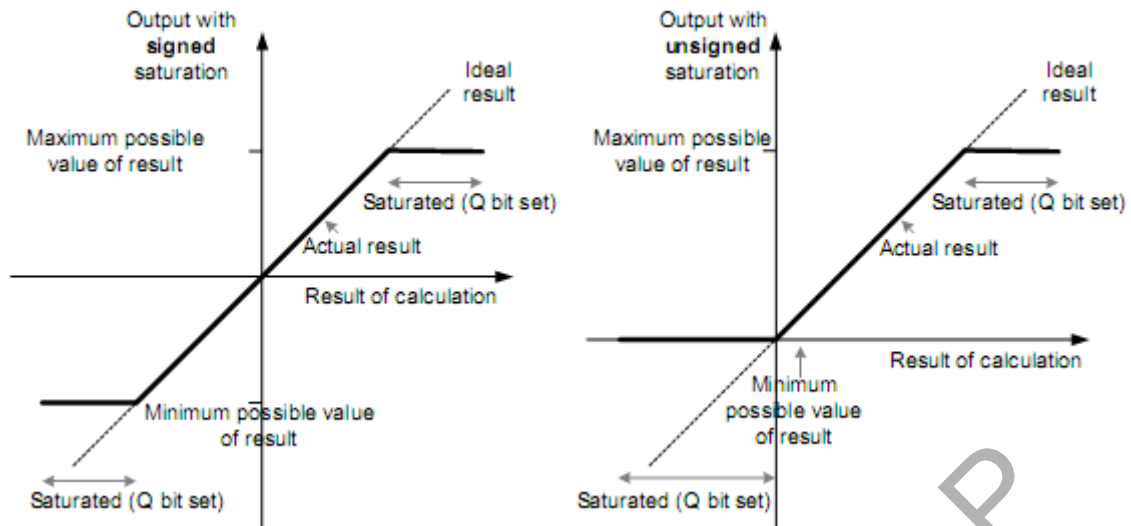

Figure 17: Signed saturation and unsigned saturation
- If normal data arithmetic instructions are used, the MSB of the result would be lost and can cause a serious distortion in the output. Instead of just cutting off the MSB, saturation arithmetic forces the result to the maximum value (in case of overflow) or minimum value (in case of underflow) to reduce the impact of signal distortion as shown in figure 17